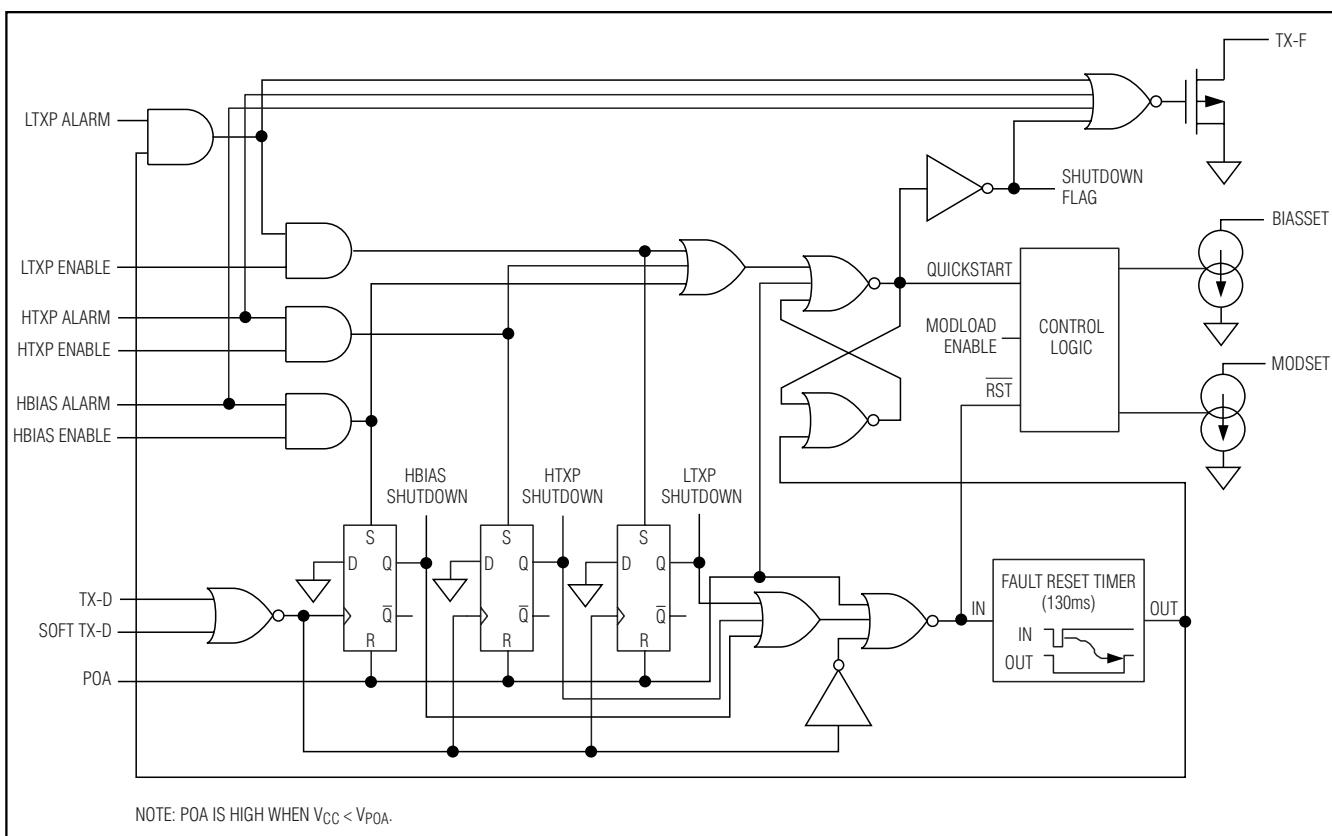

Figure 13. Quick Trip Logic Diagram
The DS1861 has a V_{CC} monitor plus three programmable quick-trip (QT) fault monitors (Figure 13) that can trigger the TX-F output. The QTs monitor for high transmit power (HTXP), low transmit power (LTXP), and for high bias current (HBIAS). All the QTs feature programmable trip levels, an alarm disable, and a shutdown enable to determine if the enabled QT alarm shuts off the I_{BIASET} and I_{MODSET} outputs.
The high and low transmit power quick-trip thresholds are each programmed by 3 bits that select one of seven different levels as a function of the expected I_{BMD} current. Each QT monitor can be disabled by programming all three bits to zero. Disabling a QT by programming its control bits to zero prevents the QT alarm flags from ever being set, which consequently prevents that monitor from asserting the TX-F output, latching the device into a shutdown condition, or setting the alarm bits in the Status register. The HTXP and LTXP enable bits can be used to prevent the transmit power level QTs from causing shutdown while allowing the TX-F output to be set to flag the system of a transmit power fault condition. Figure 13 shows the shutdown logic. Tables 1 and 2 show the QT thresholds as a function of I_{BMD} current-set point.